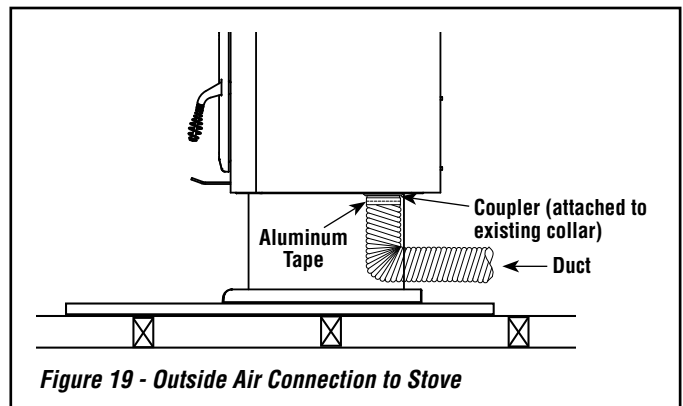

Figure 19 - Outside Air Connection to Stove
- Attach the duct to the coupler on stove (see *Figure 19*). Using the aluminum tape provided, wrap the tape around the joint between the flexible duct and the air inlet.